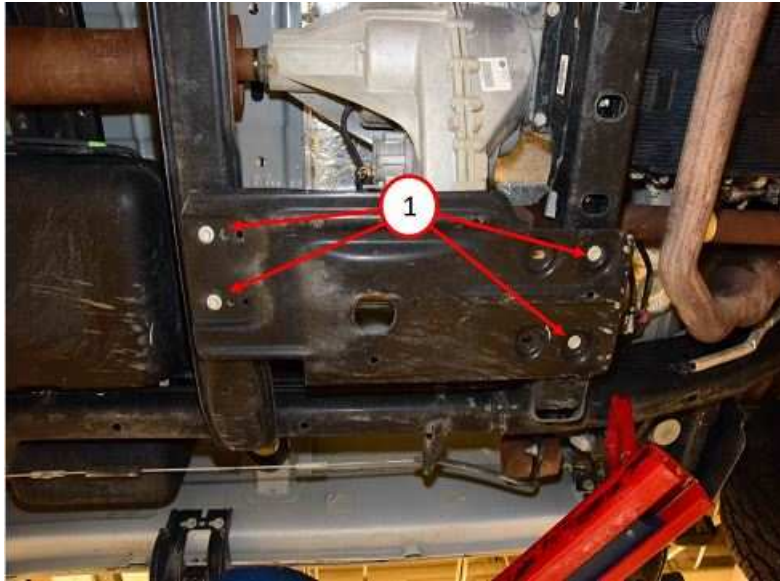

Fig. 1
- Remove bolts (Fig. 1) and remove transfer case skid plate (if equipped). Refer to the detailed service procedures available in DealerCONNECT> TechCONNECT under: Service Info>13 - Frame and Bumpers/Under Body Protection/Plate, Skid, Transfer Case/Removal